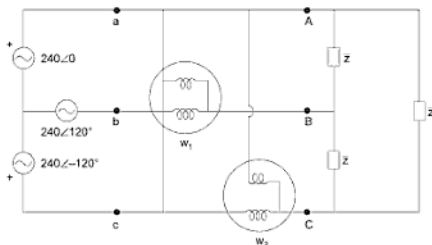

Fig. A1-34
- (a) Calculate the reading of each wattmeter in the circuit shown below (Fig. A1-34). The load impedance $z = 40\angle -30^\circ \Omega$
- (b) An open circuit (OC) test and short circuit (SC) test are performed on a single phase transformer in standard manner with results in table. Quantities not measured are noted as "NM".